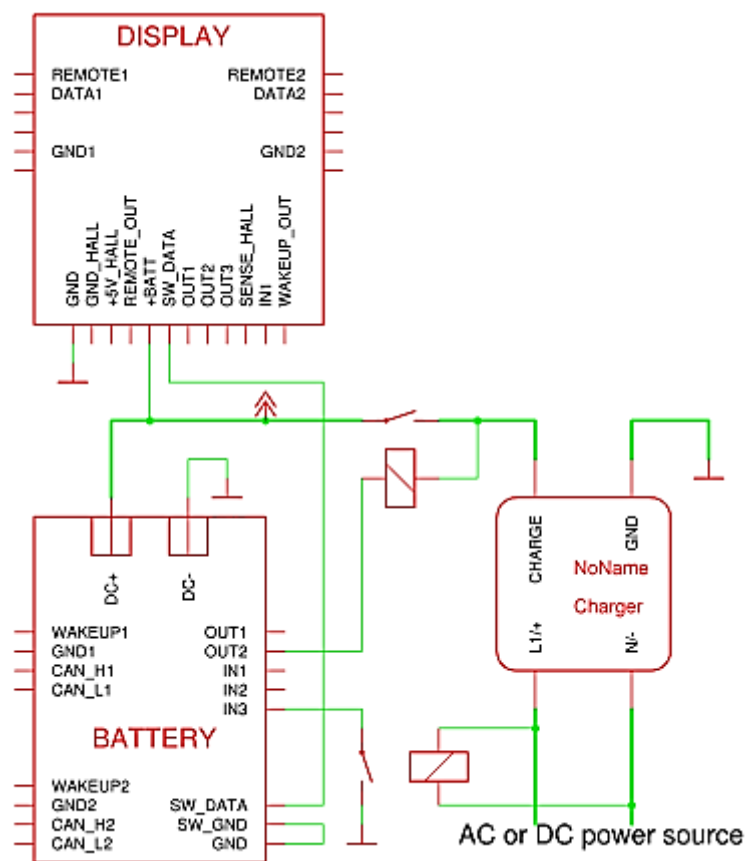

Figure 6 Using an Alternate AC/DC or DC/DC charger
- Connect the DC Charging device to the battery through a DC charge control relay as shown in the diagram Figure 6.
Two DIP switches are placed in a cutout in the front of the battery. These are illustrated in Figure 6.